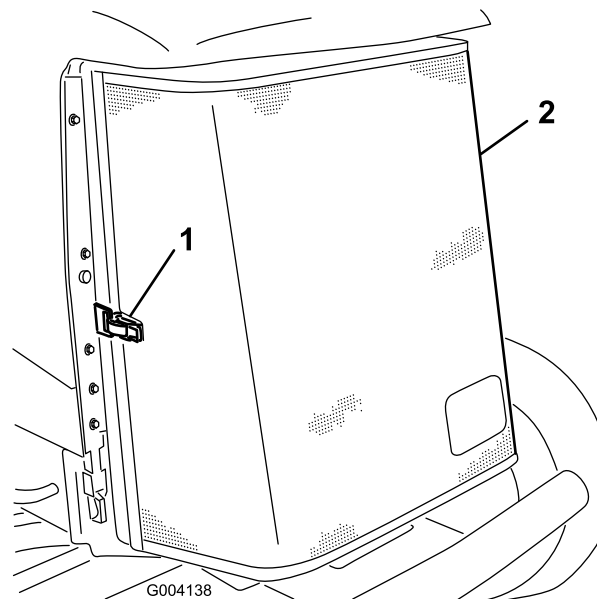

Figure 71
3. Unlatch the clamp and pivot open the rear screen (Figure 71).